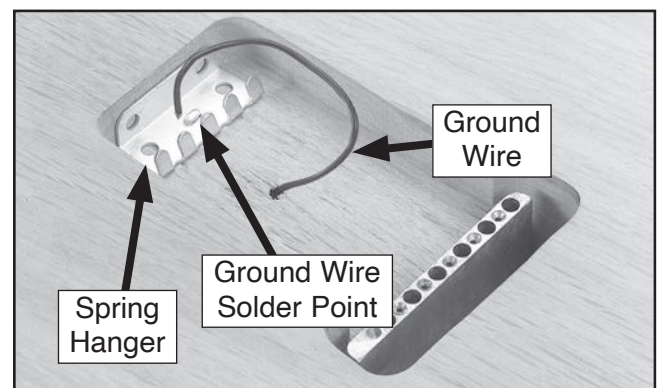

Figure 11. Spring hanger placement.
4. Secure tremolo bridge to guitar body with (6) M3.5 x 30 Phillips head screws.
5. Turn guitar body over and place spring hanger in cavity, as shown in **Figure 11**.